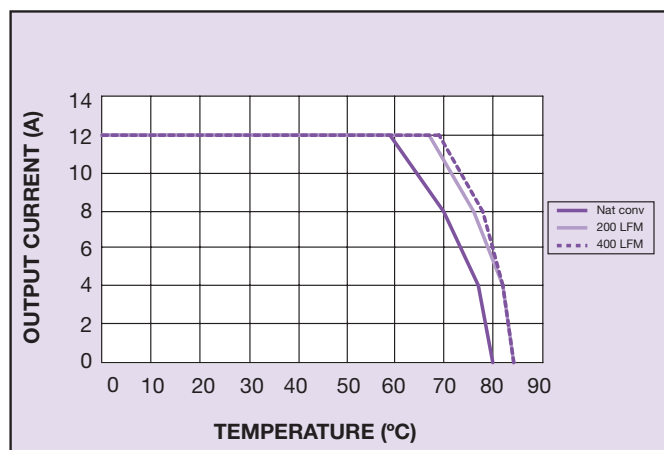

Figure 1 - Derating Curve
- 2 See Figures 1 and 2 for sample derating curves. For the full set of derating curves see Application Note 165.